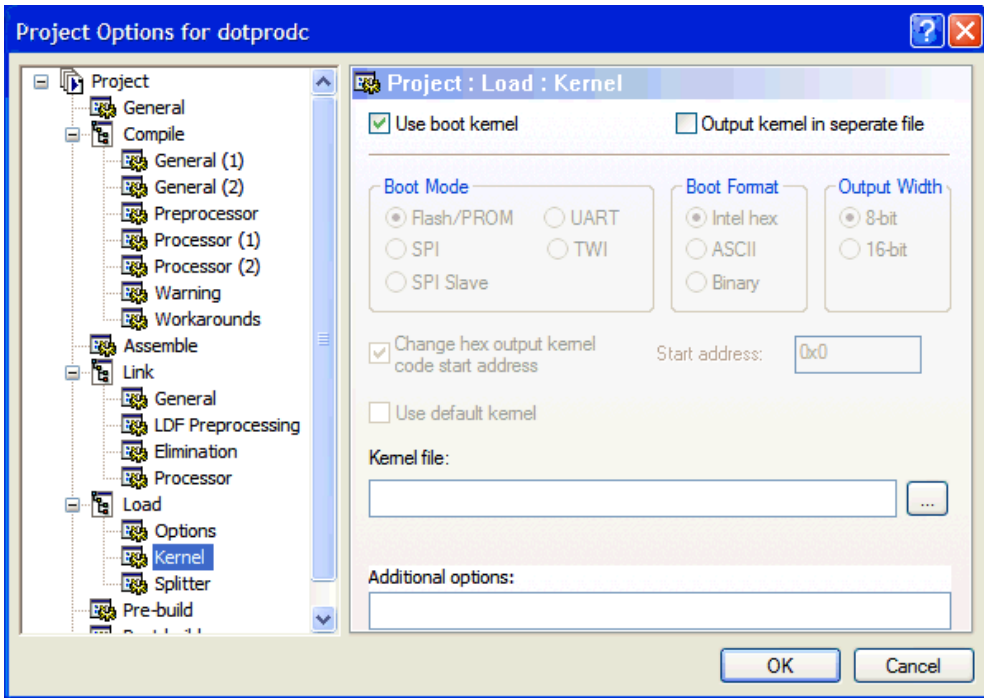

Figure 2-26. Kernel Page – Boot Options for an ADSP-BF53x Blackfin Processor
Figure 2-26 shows a sample **Kernel** page, with boot options for a Blackfin processor.
2. Select **Kernel** (under **Load**) to open the **Kernel** page for the second-stage loader settings, shown in Figure 2-26.